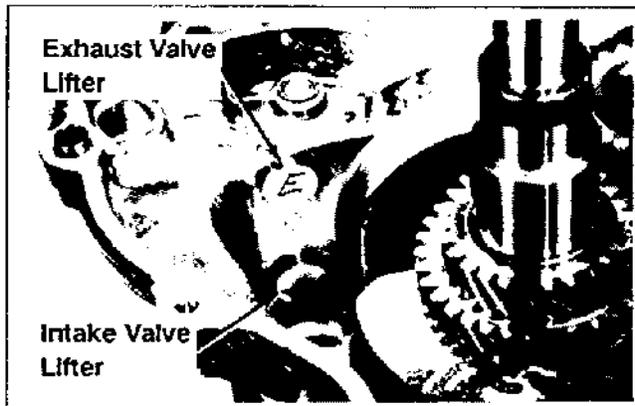

Figure 11-11. Installing Hydraulic Lifters.
2. Install the hydraulic lifters into the appropriate intake or exhaust lifter bore in the crankcase. See Figure 11-11.